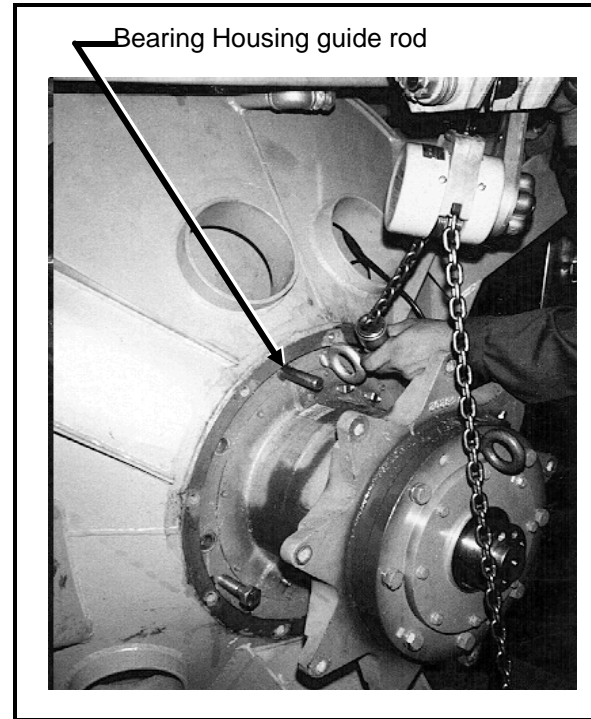

FIGURE 9 (MSSMA403AE)
7. When the center flange of the housing is even with the rear end of the cone as shown in FIGURE 9, install the 1/2" eye-bolt in the top push-off hole in the center flange and move the chain hoist hook to this eyebolt.